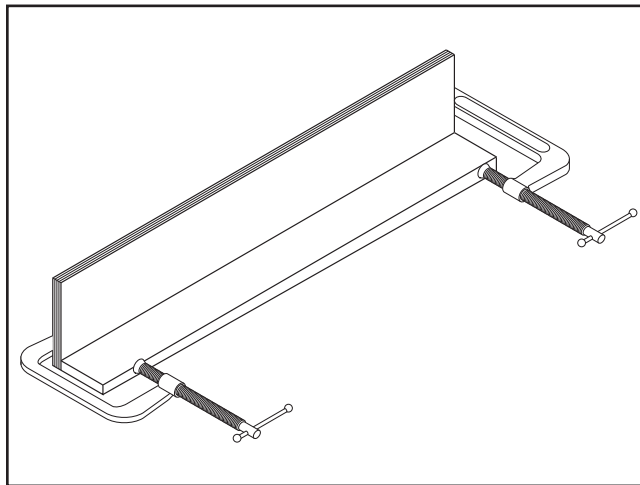

Figure 54. Clamping the resawing barrier.
3. Glue the end of the 3" board, then clamp the boards at a 90° angle with the larger board in the vertical position, as shown in **Figure 54**.